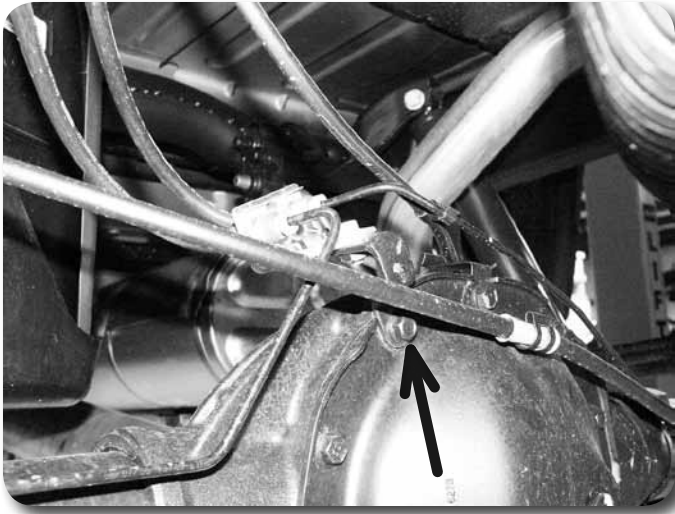

Figure 36
4. Disconnect the rear brake line bracket from the top of the differential **Figure 36**. Save hardware.